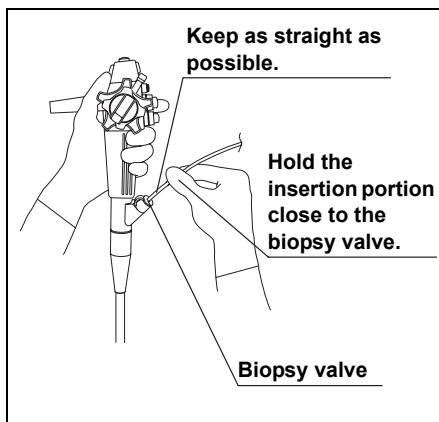

Figure 3.8
2. Carefully insert the instrument into the biopsy valve (see Figure 3.8).